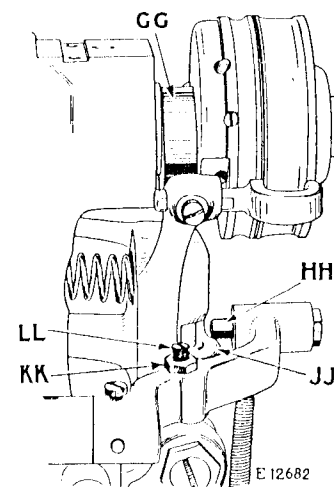

Fig. 24. Adjustments for Timing Upper Thread Trimmer
The upper thread trimmer should be timed to cut the thread immediately after the buttonhole has been cut. In case the upper thread trimmer is not in correct time, turn the driving pulley of the machine until the stop cam interlocking rod rides on the highest point of the stop cam (GG, Fig. 24). When in this position, the lock pin (HH, Fig. 24) 40052 should be  $\frac{1}{8}$  inch above the stop cam interlocking rod guide (JJ, Fig. 24) 23514 as shown in Fig.
24. If it is not, loosen the lock nut (KK, Fig. 24) in the tension releaser lever and turn the adjusting screw (LL, Fig. 24) in or out, as may be required, then securely tighten the lock nut (KK).